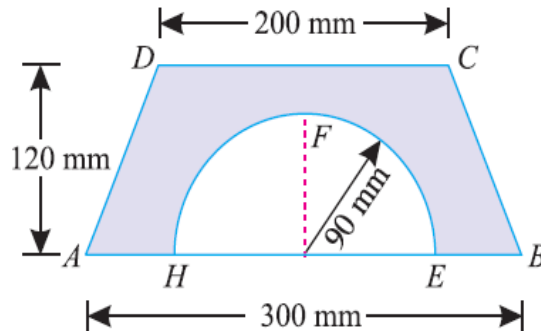

Fig.13
2. A semicircle of 90 mm radius is cut out from a trapezium as shown in Fig.13 Find the position of the centre of gravity of the figure. [L4][12 M]